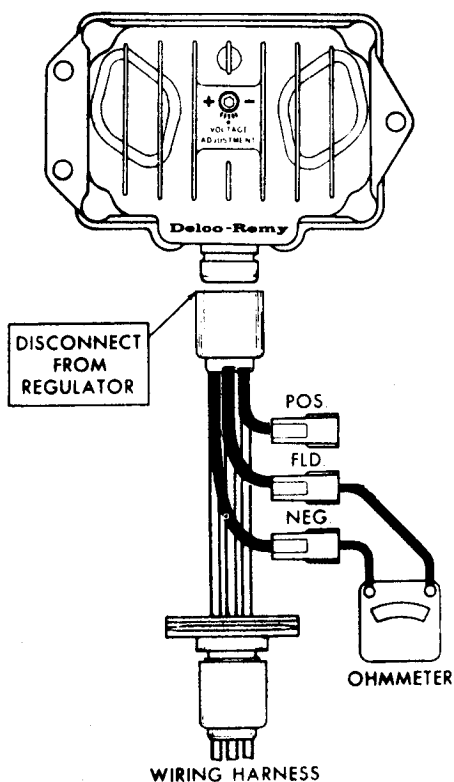

Figure 6 —Ohmmeter connections to test adapter.
- c. Connect an ohmmeter to the adapter as shown in Figure 6.